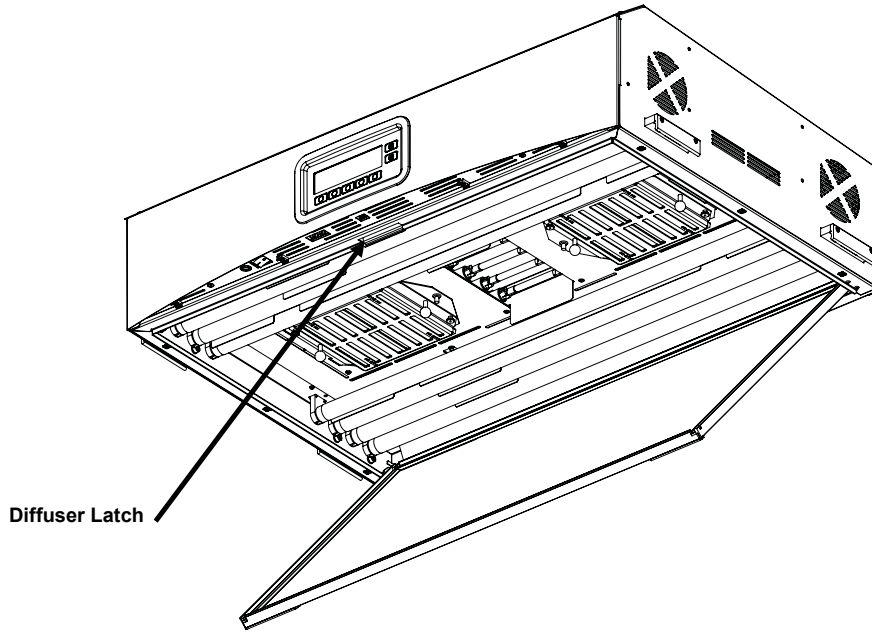

Figure 10. Luminaire Showing Diffuser Mounting
7. Rotate the front of the diffuser to its closed position and secure it in place with the latch. Refer to figure 10.